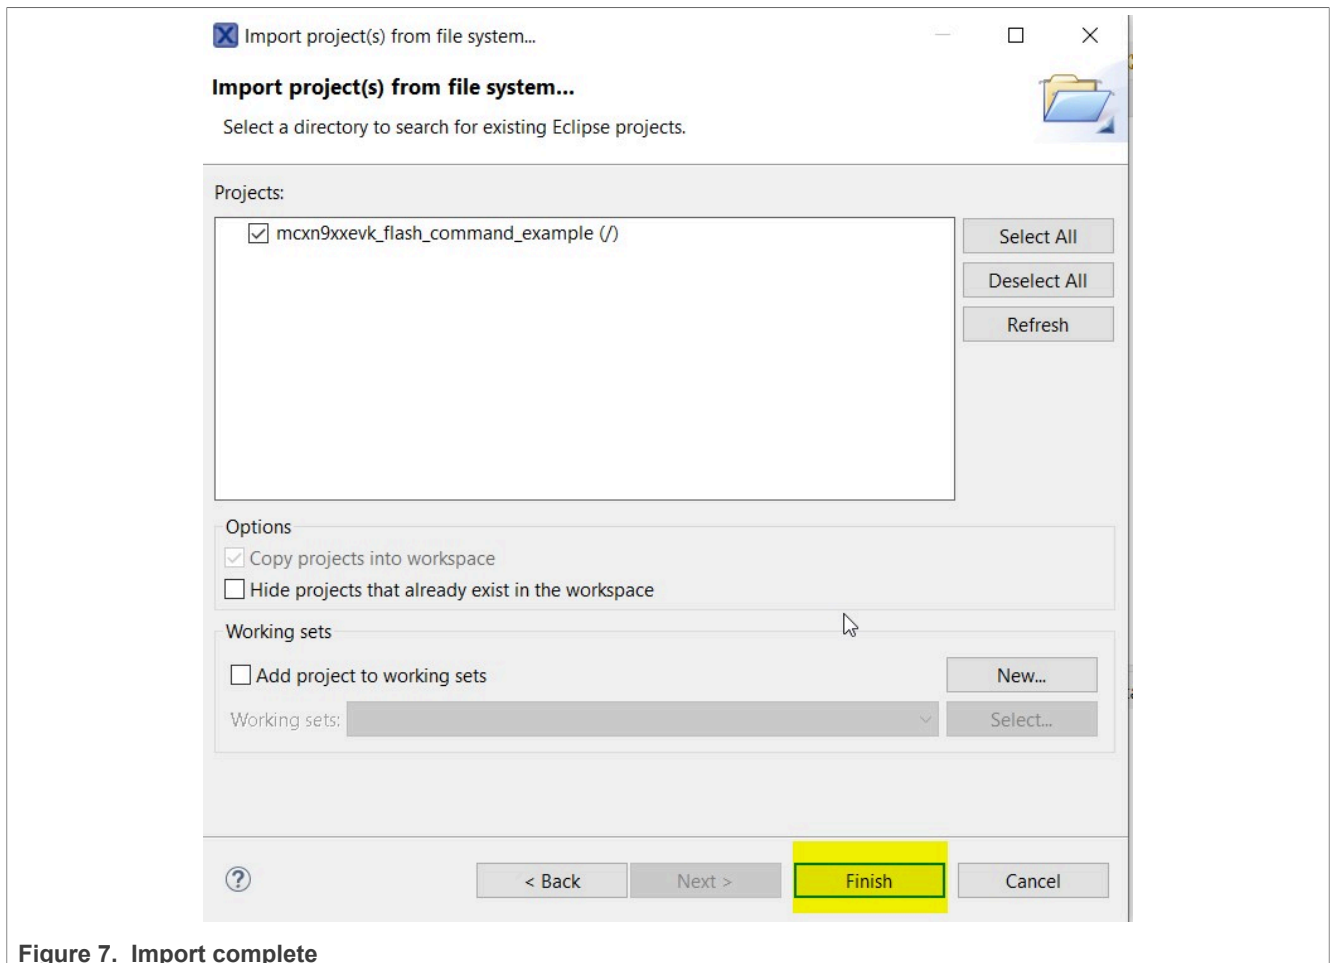

Figure 7. Import complete
7. Click **Finish**, see Figure 7,